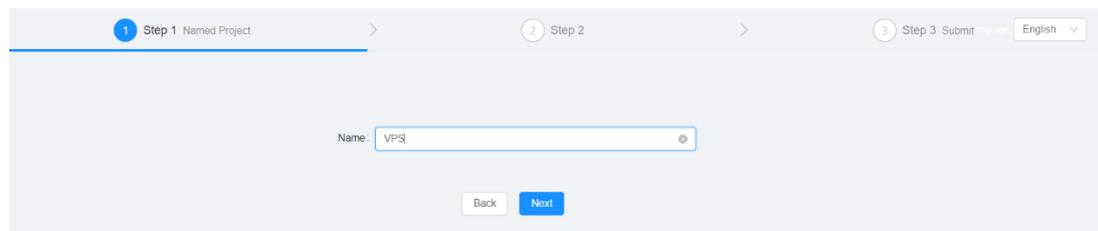

Figure 5.6 Program Naming
Step1: Name the program, as shown in Figure 5.6.